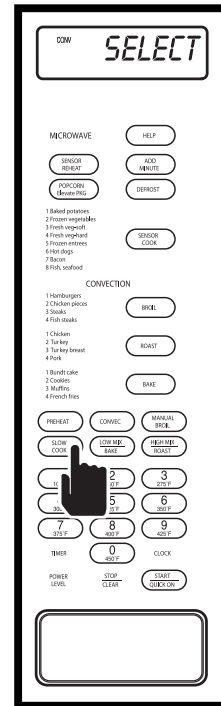

Figure 3-86.
2. Press SLOW COOK key, “SELECT - TEMP ” will flash on display. (See Figure 3-86)